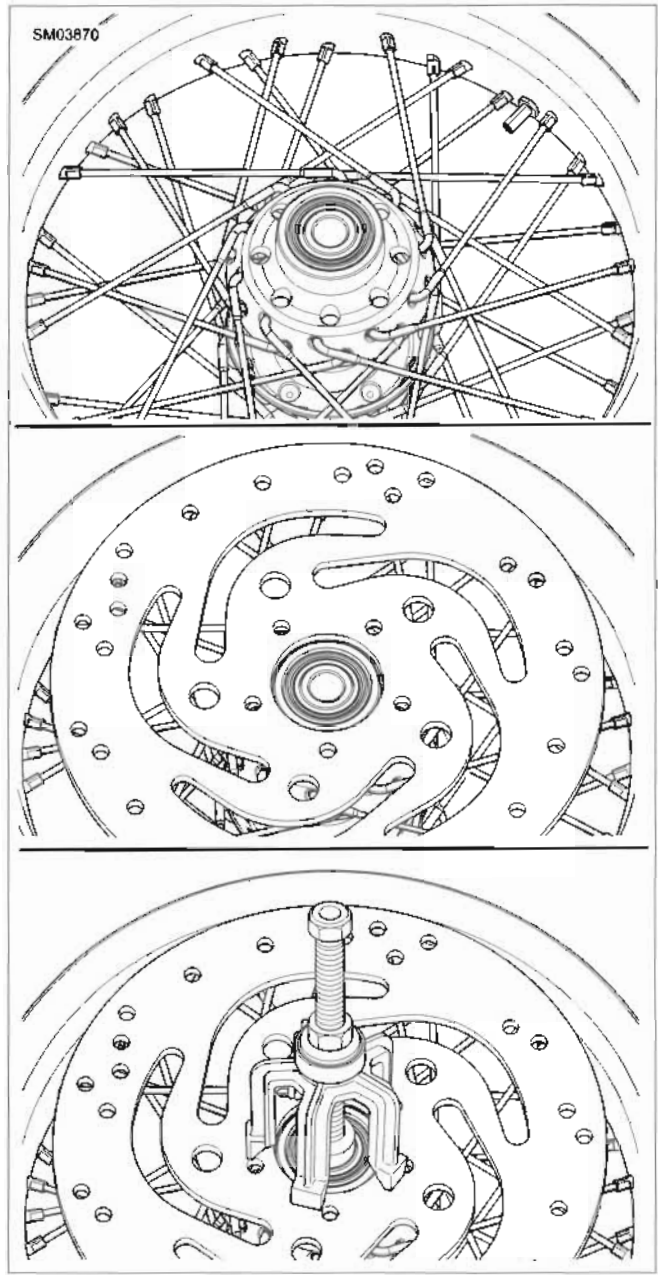

Figure 2-25. Brake Disk as Puller Aid
- See Figure 2-25. Some wheel hubs may not provide adequate support for the puller bridge. In these cases center a used brake disc over the hub to support the puller bridge while removing the bearings.